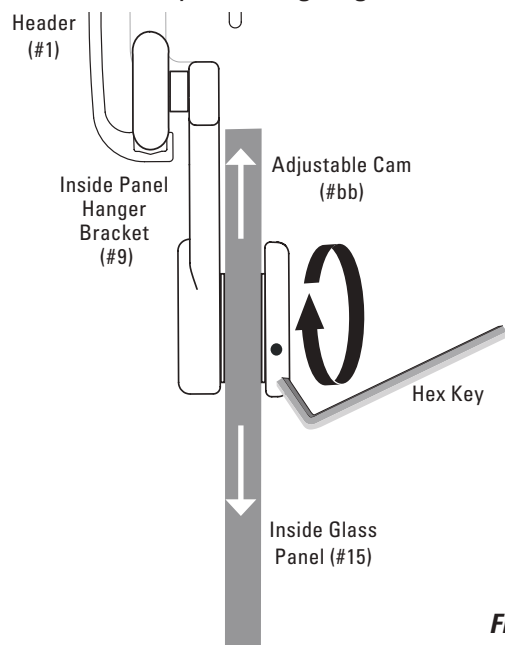

Figure 11
3. The Inside Door Panel can be adjusted by loosening the screw in either of the Adjustable Cams, and inserting the Hex Key into the side of the Adjustable Cam to turn it. This moves the Panel up or down in the Hanger Assembly (See **Figure 11**).